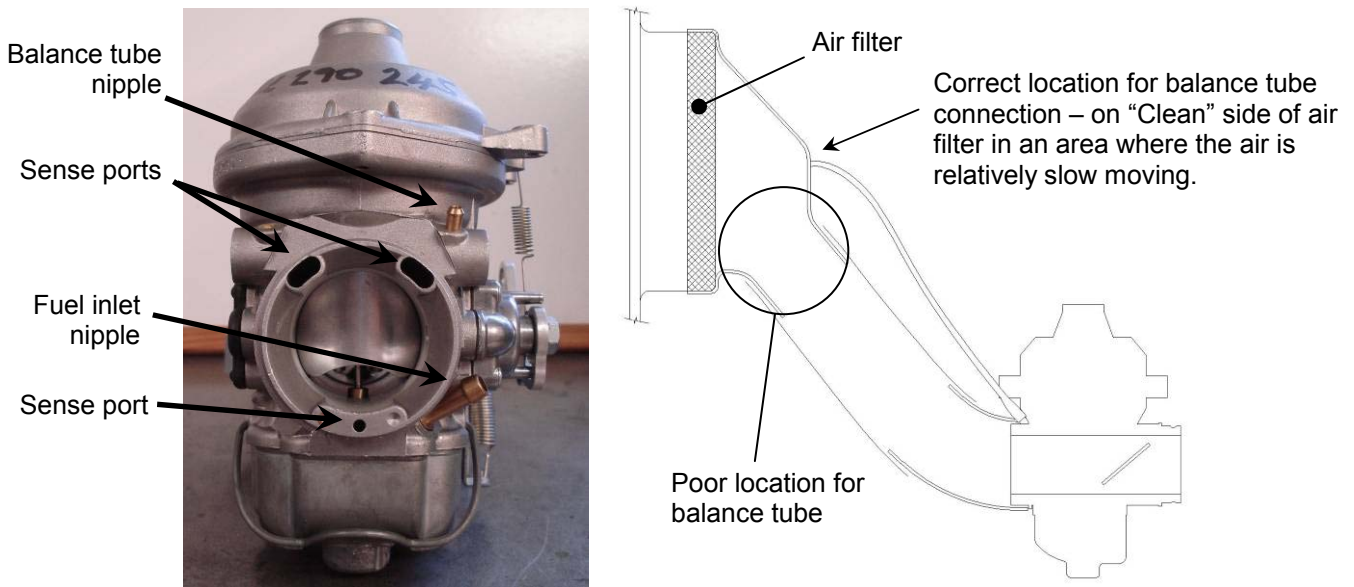

Figure 27. Carburettor Intake & Balance Tube Detail
- The Bing carburettor has a Balance tube (also known as a "sense tube") that connects the carburettor to the air box. The tube runs from a nipple on the carburettor to the airspace in the air box on the "clean" side of the air filter. This tube is part of a system of ports which "tells" the carburettor how hard the engine is working and controls how the carburettor varies the fuel / air mixture delivered to the engine. Tuning issues and poor running will result if this tube is blocked or connected to the wrong spot. Figure 27 shows the tube installation. Note that the balance tube must not be connected to the air box in a location where the air is moving fast – rapid flows produces pressure changes and boundary layer effects which mean the balance tube gives the carburettor "bad" information, which can cause poor mixture control and running issues.